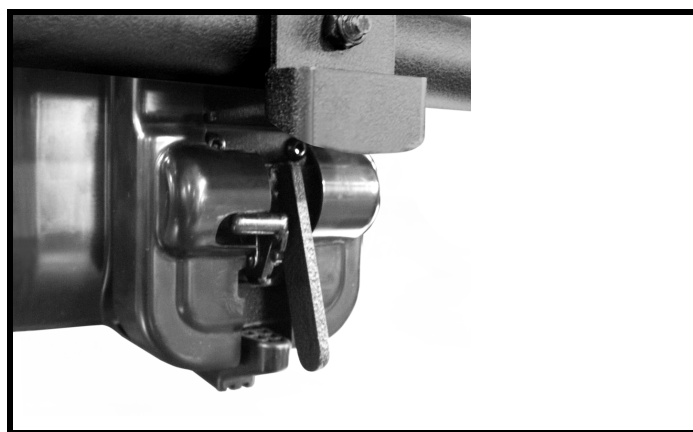

Figure 8a. Drive Mode (Drive Engaged)
2. Push the manual freewheel lever down for drive mode (drive engaged). See figure 8a.